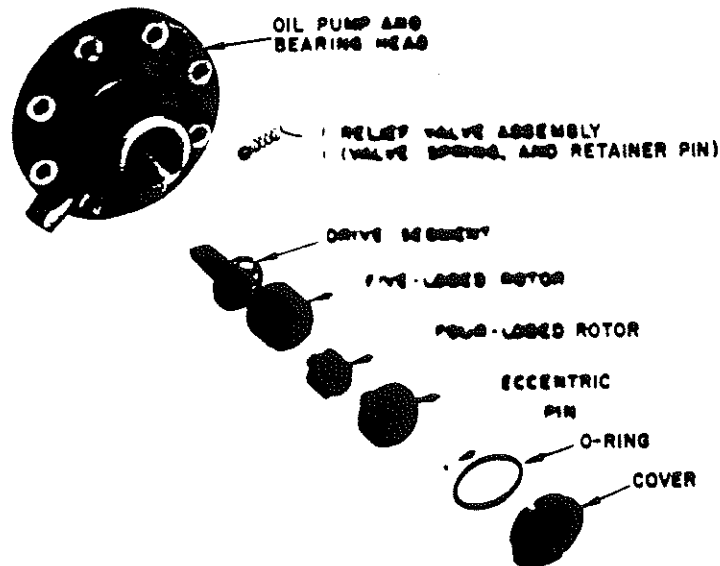

Figure 3-10. Oil Pump and Bearing Head Assembly Exploded View
- a. Remove pump cover and O-ring. (See figure 3-10.)